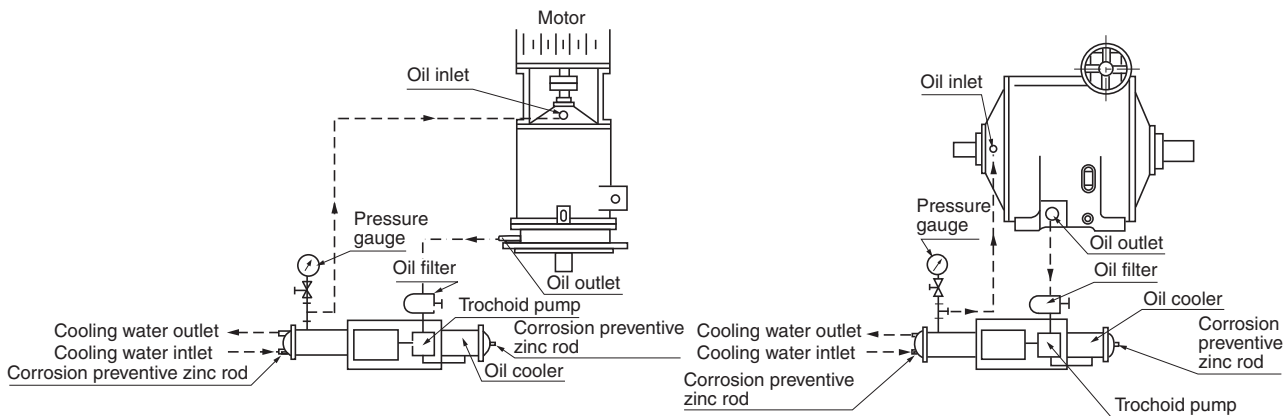

Fig. 20
- (1) Install this device within 0.5m in a vertical upward location, or within 1.5m in a vertical downward location, and within 3m horizontally from main body of the Beier Variator. Minimize pipe bands.
- (2) The outline diagram shows both the Beier Variator and its lubricating oil cooling device. According to Fig. 20, install piping at the site along the broken lines. Use a gas pipe for the piping. Use a 1-1/2B to 2B gas pipe for the Beier Variator oil outlet, and use a 1B gas pipe for the oil inlet. Piping materials and pipe joints should be provided by the user since such piping will be installed at the site.